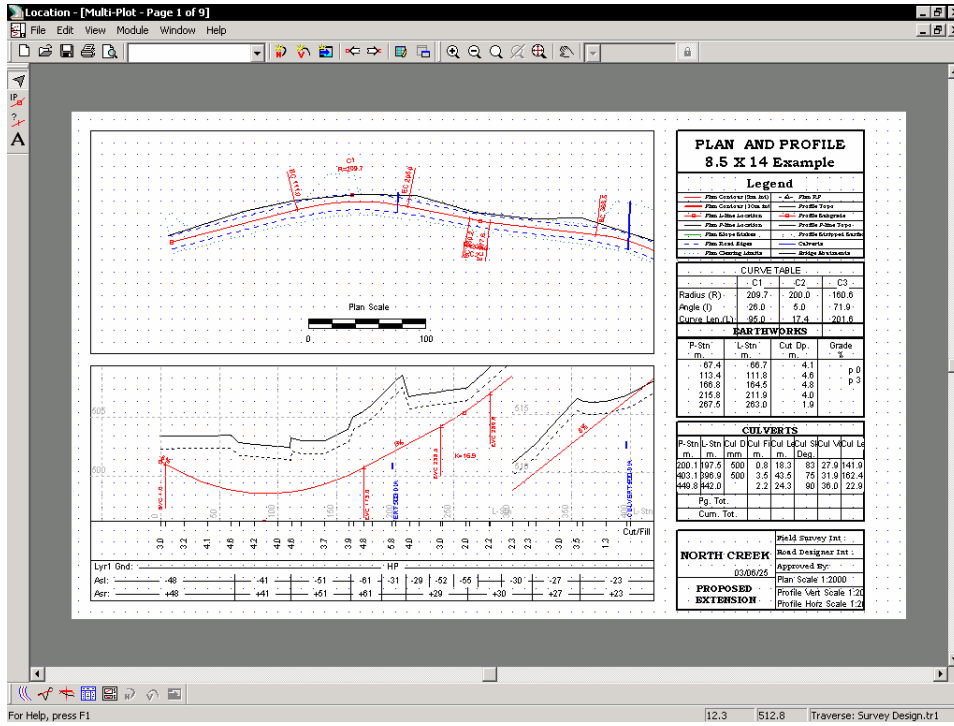

Figure 9.11 Final Multi-Plot Sheet
8. Resize and Reposition the Scale Bar sub-view, until it appears as in the Figure 9.11 (see note below).
The Result is a Legend similar to the one shown in Figure 9.11.